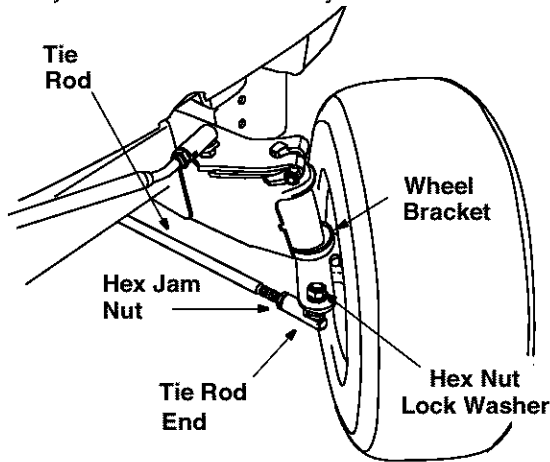

Figure 18
- Remove the hex nut and lock washer, and drop the end of the tie rod from the axle bracket. See Figure 18.